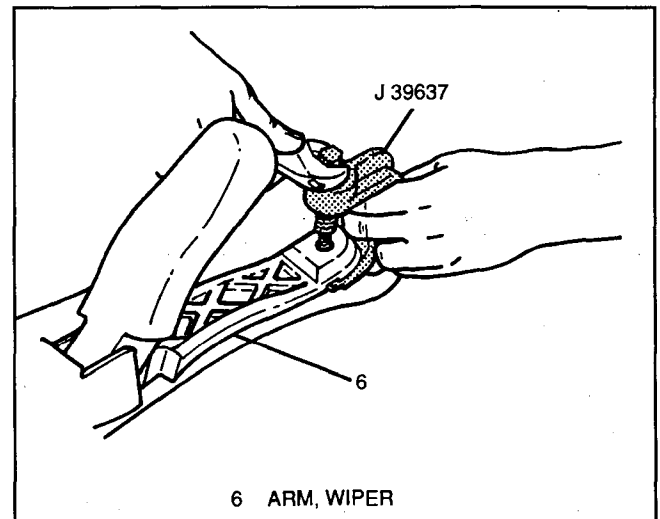

Figure 10 — Wiper Arm Removal
4. Wiper arm (6, Figure 10) from linkage drive shaft using J 39637.